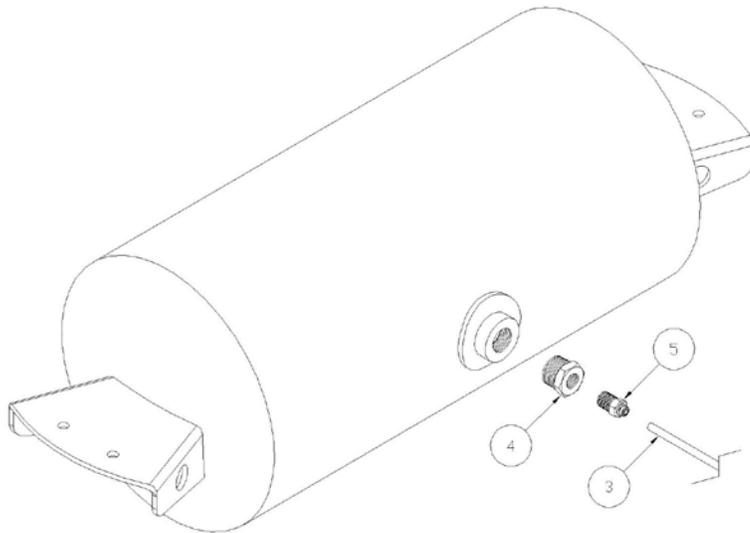
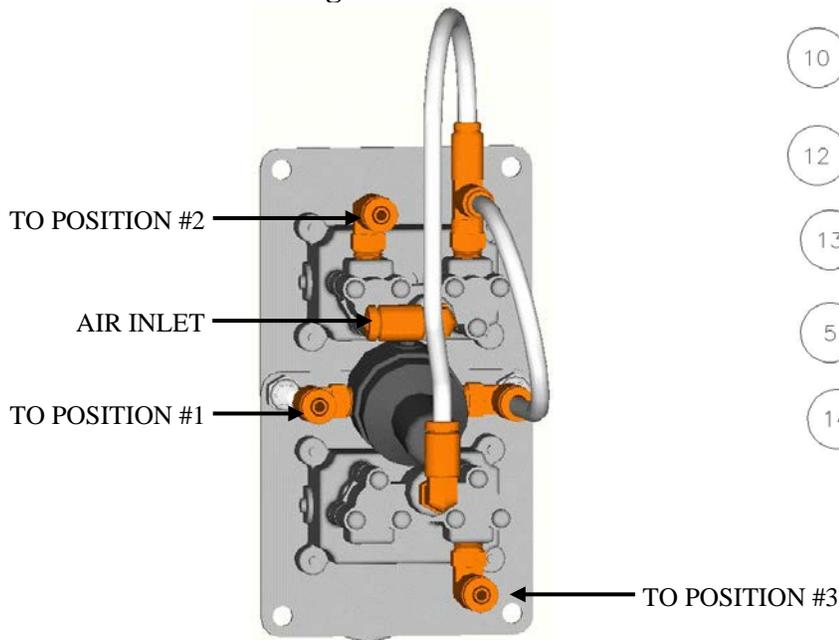
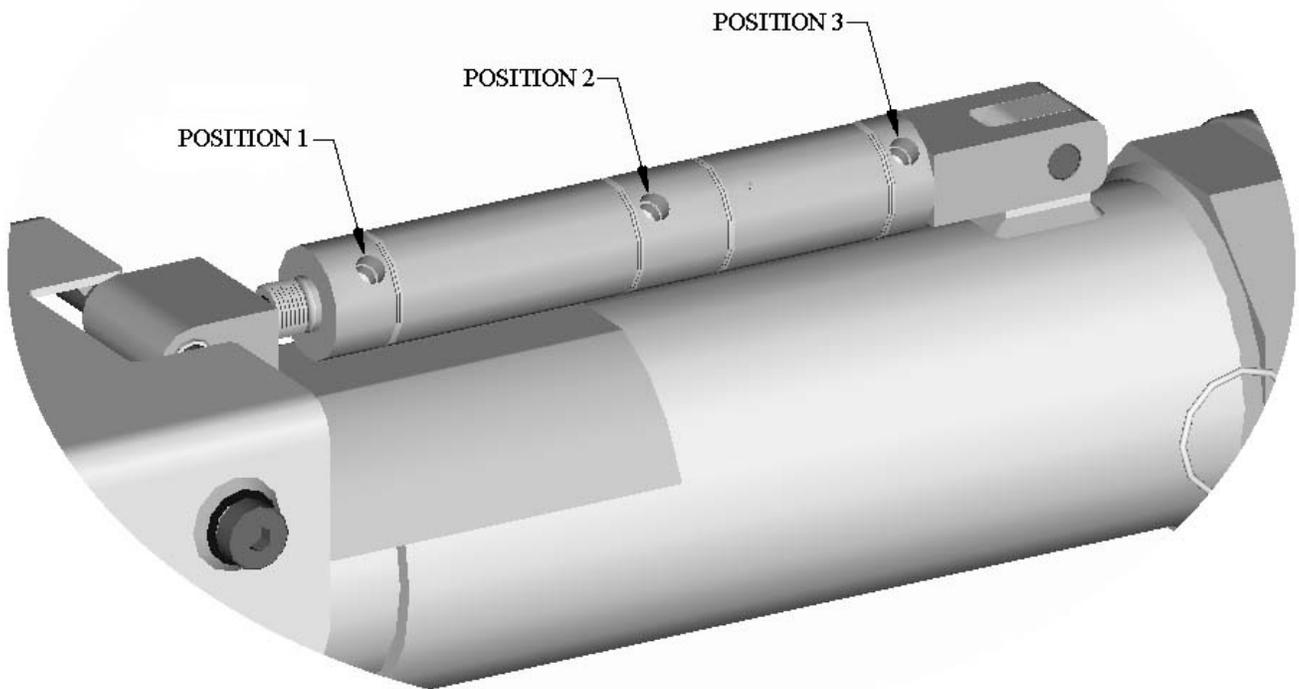
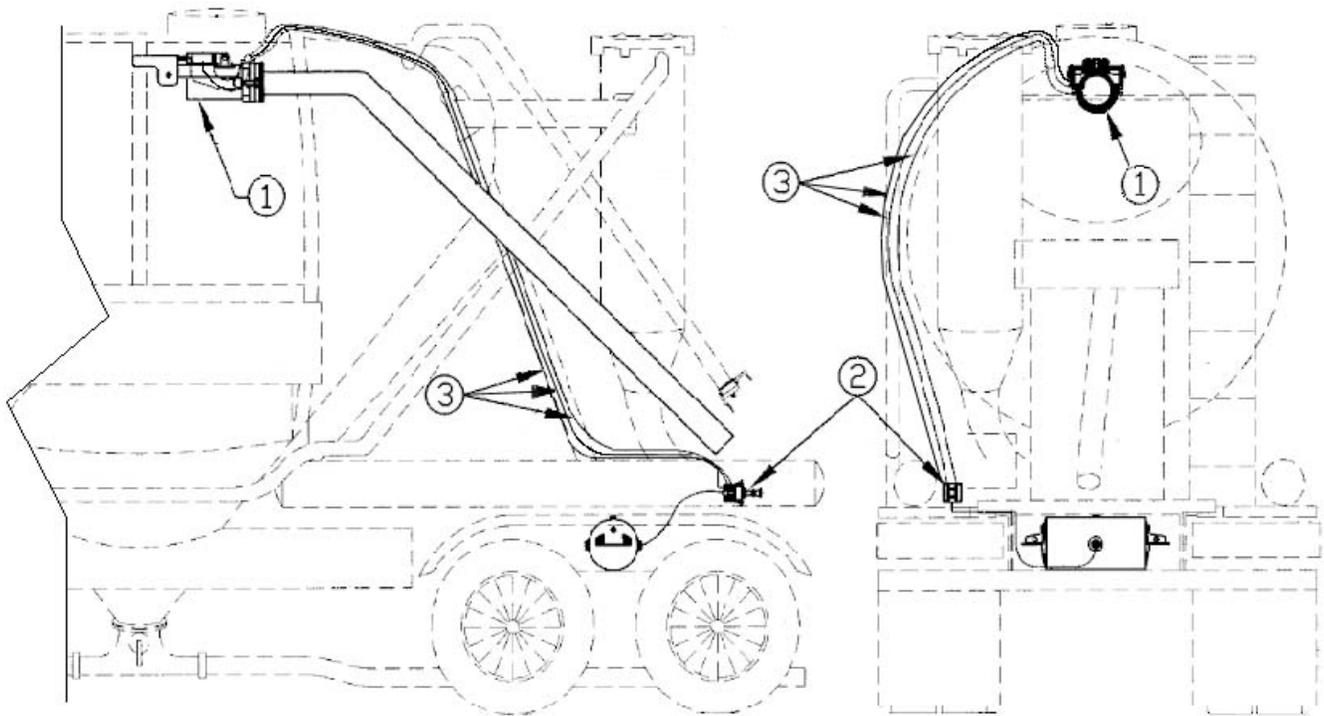

Figure 1
Figure 2
Figure 4
Figure 5
2. Remove the reserve plug from the air tank. Insert the hex busing [#4, Figure 1] into the air tank and tighten. Insert the 1/4" male NPT x 1/4" instant tube fitting [#5, Figure 1] into the hex bushing. Attach 1/4" nylon tubing [#3, Figure 1] into the instant fitting [#5, Figure 1].
4. Cut the 1/4" tubing to the desired length. Insert the 1/4" tubing [#3, Figure 1] from the air tank into the "Air Inlet" instant tube fitting elbow [Figure 2]. Secure the nylon tubing to the frame of the trailer using nylon ties.
7. Drill three 3/4" holes a minimum of 3" apart to ensure that there is enough room for tightening the brass jam nuts [#10, Figure 2].
11. Keep track of which color tubing is connected to the corresponding port on the cylinder [Figure 4].
12. Using the best possible route to the 3 position air switch assembly, secure the air tubing to the exterior of the trailer using cable ties. [Figure 5]. Cut and insert the tubing into the corresponding male fitting 1/8" male NPT x 1/4" tube compression fittings. Ensure that Positions 1, 2 and 3 are connected on the switch assembly [Figure 2] and the cylinder [Figure 4].